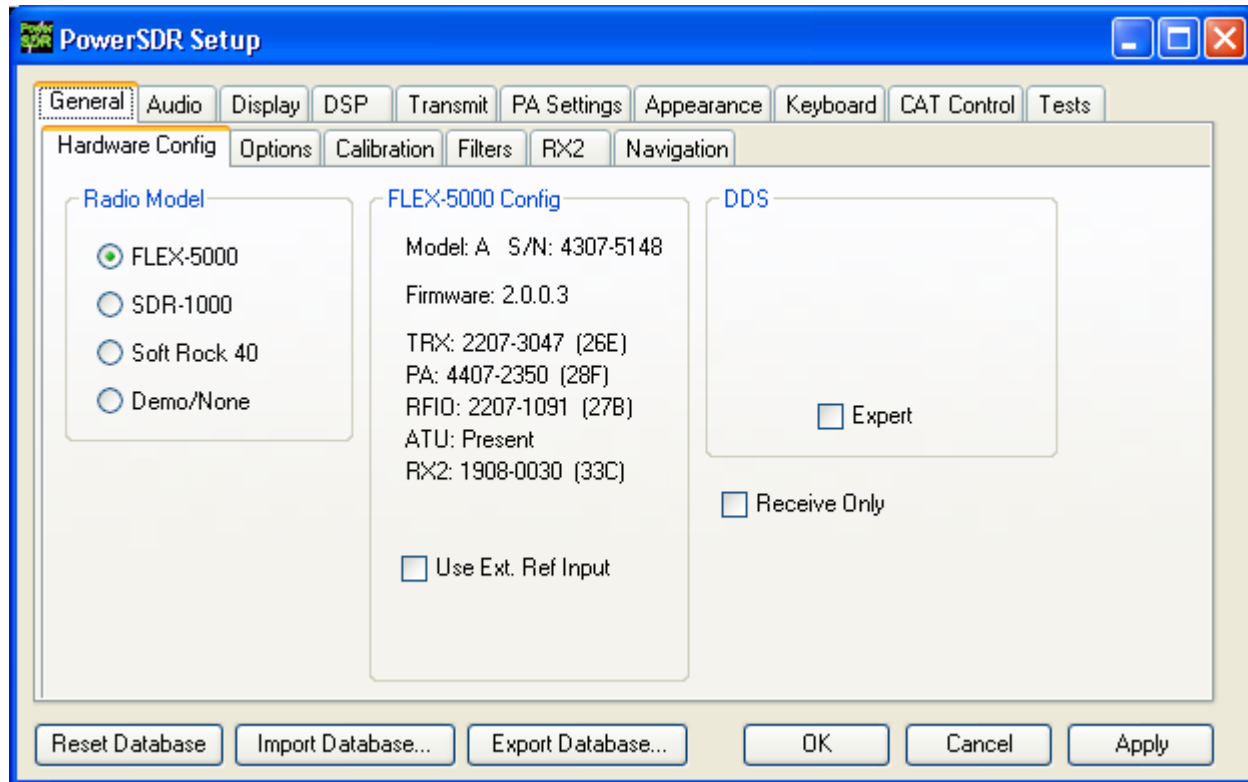

Figure 93: Setup Form - General Tab, Hardware Config Sub-Tab
¹ Earlier versions of the FLEX-5000, with the HRFIO board Assembly Number (ASSY) 27 installed instead of the later HRFIO board ASSY 34, do not have ANT1 available as an option for Receiver 2. You can check which board is installed in your FLEX-5000 by opening the Setup Form – General Tab, Hardware Config Sub-Tab, in the section marked FLEX-5000 Config. The Assembly Number is shown between brackets at the end of the line beginning with RFIO (see e.g. Figure 93 on page 126). Also see the Knowledge Center articles HRFIO Capabilities by Assembly Number, How to Identify the HRFIO Assembly Number and Antenna Selection Options for the RX2 (or search for *HRFIO* in our Knowledge Center at <http://kc.flex-radio.com/search.aspx>). If you have the earlier HRFIO ASSY 27, you can upgrade to ASSY 34. See the [Flex-Radio Systems website \(www.flex-radio.com\)](http://www.flex-radio.com) for more information.
- ❑ ATU and RX2, shown in Figure 93, will only be listed if indeed installed in the radio.